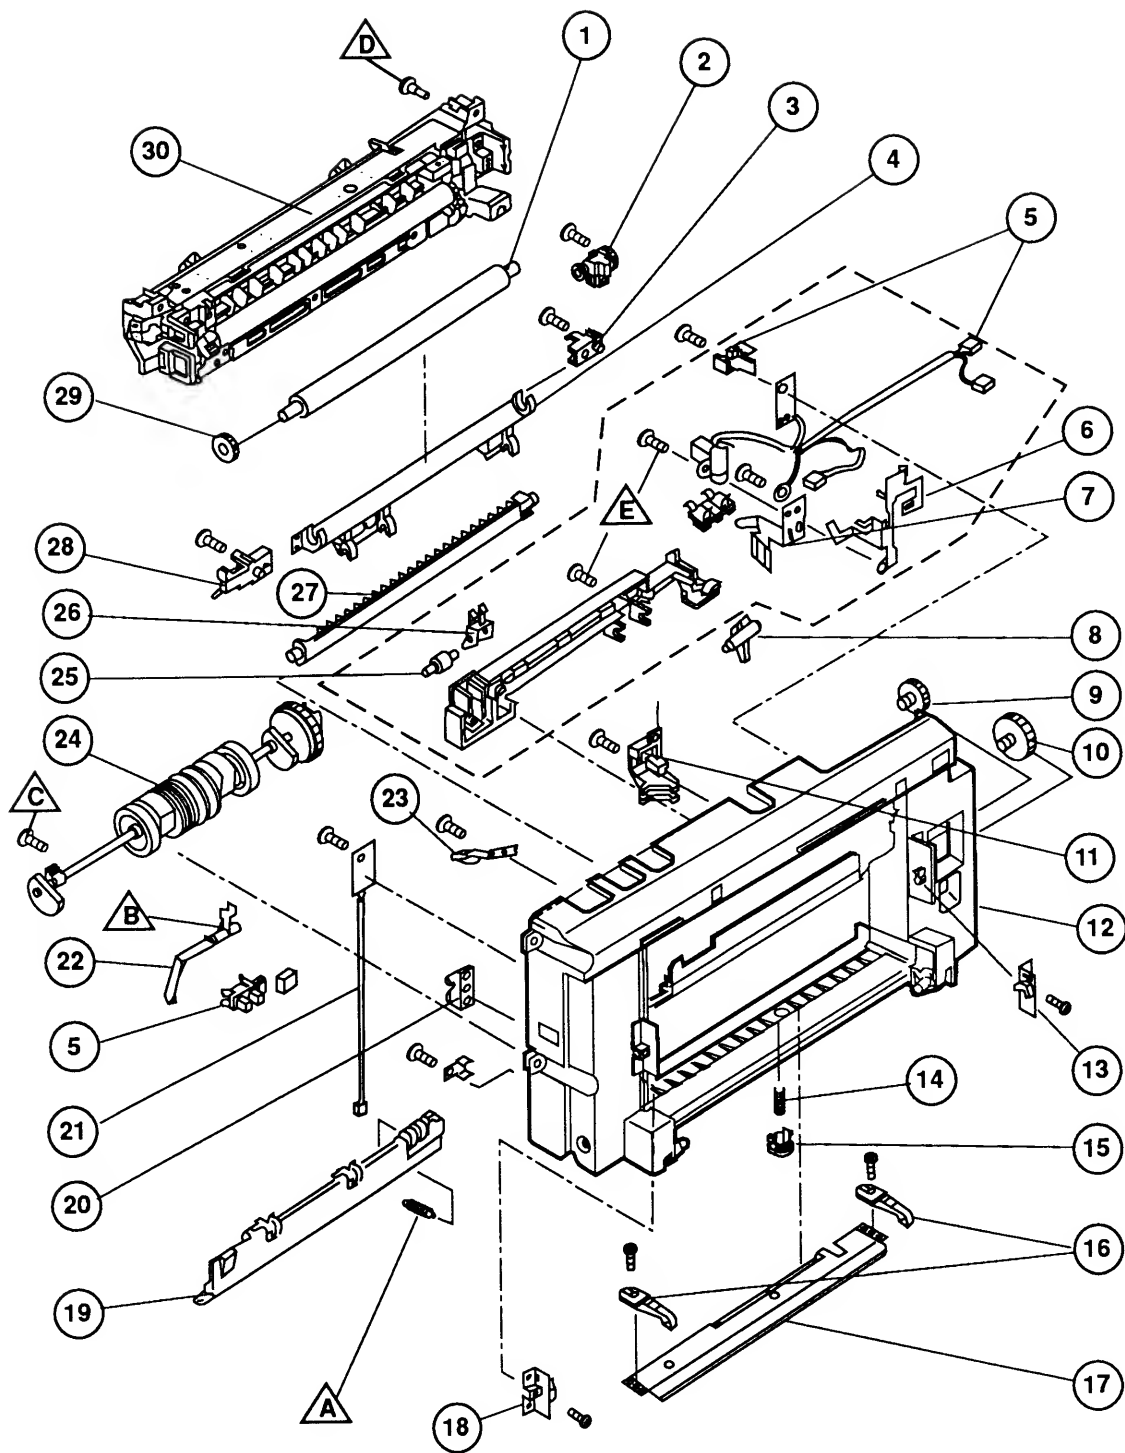

Figure 3
□ FRONT ACCESS DOOR ASSEMBLY (Figure 3)
Note: Apple sells the following parts in Figure 3 as part of the Spring Kit:
Note: Apple sells the following parts in Figure 3 as part of the Screw Kit: